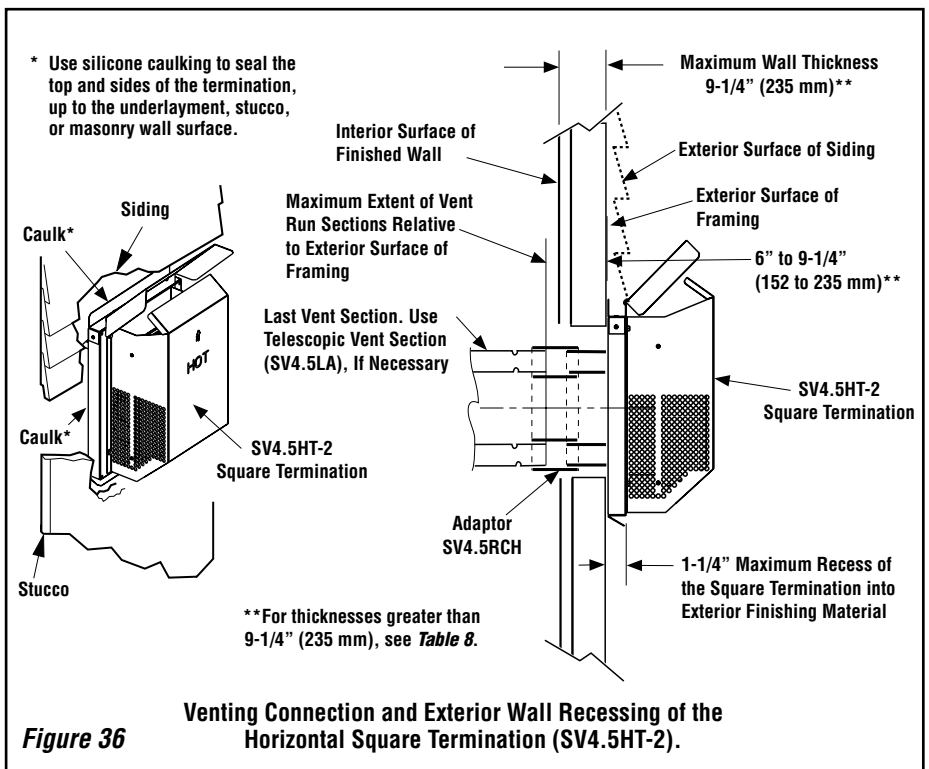

Figure 36
J. Assemble vent run to exterior wall - If not previously measured, locate the center of the vent at the exterior wall. Prepare an opening as described in **Step B**. Assemble the vent system to point where the terminus of the last section is within 7" (178 mm) to 11-1/4" (286 mm) inboard of the exterior surface to which the SV4.5HT termination is to be attached, see **Figure 36**. If the terminus of the last section is not within this distance, use the **telescopic vent section SV4.5LA**, as the last vent section. For wall thicknesses greater than that shown in **Figure 36**, refer to **Table 8 on Page 24**. This table lists the additional venting components needed (in addition to the termination and adaptor) for a particular range of wall thicknesses.
1. Install the square termination (SV4.5HT-2)- For the last step, from outside the exterior wall, slide the collars of the termination onto the adaptor (the outer over the outer and the inner inside the inner) until the termination seats against the exterior wall surface to which it will be attached. Orient the housing of the termination with the arrow pointed upwards. Secure the termination to the exterior wall. **The horizontal termination must not be recessed into the exterior wall or siding** by more than the 1-1/4" (32 mm) as shown in **Figure 36**.
Table 8 NOTE: See Figure 36 showing wall thickness range when using SV4.5HT-2 termination kit.